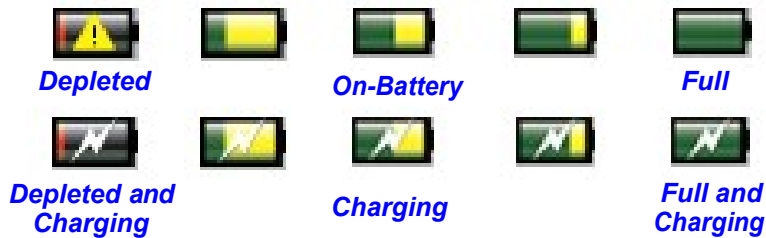

Figure 5-4 Battery Levels, On-Battery and Charging
- While connected to the power supply, the battery icon changes to indicate charging. See Figure 5-4.